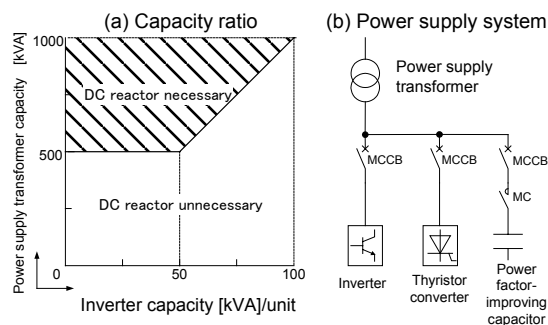

Fig. 3-3-3 Application of DC reactor
- The inverter capacity ratio to the power transformer is in the relationship shown in Fig. 3-3-3 (a).
- A thyristor is in the same power supply or a power factor-adjusting capacitor is turned on or off in the same power supply as shown in Fig. 3-3-3 (b).